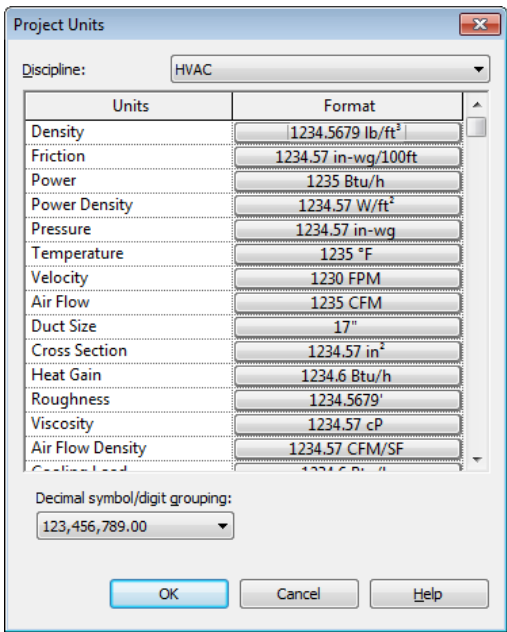

Figure 2-29 Table in the **Project Units** dialog box displaying various units required in the HVAC workflow
- d. Specify the project information, refer to Figure 2-29.
2. In the **Project Units** dialog box, select the **HVAC** option from the **Discipline** drop-down list; the various units required in the HVAC workflow are displayed in a table located below the **Discipline** drop-down list, refer to Figure 2-29.